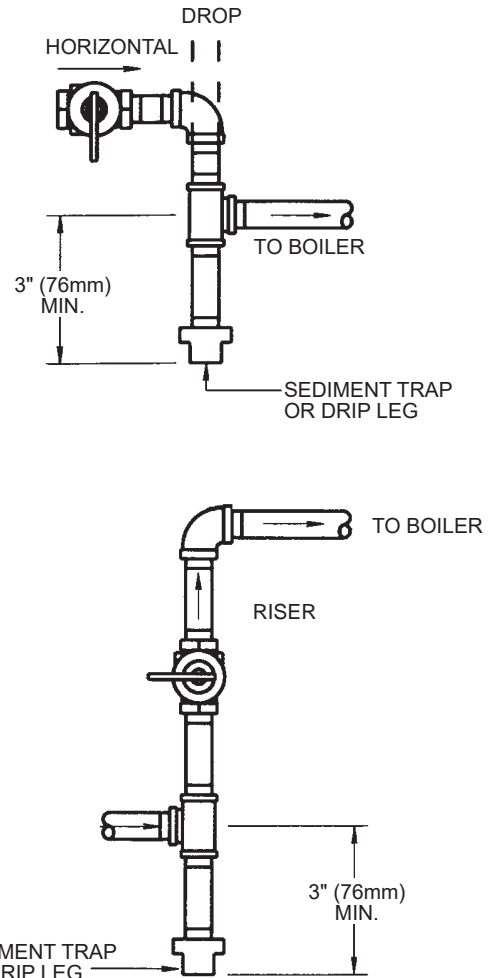

Figure 8. Gas Supply Piping.
4. A sediment trap (drip leg) must be installed ahead of the gas controls (**see Figure 8**). Fit the trap with a threaded cap which can be removed for cleaning.